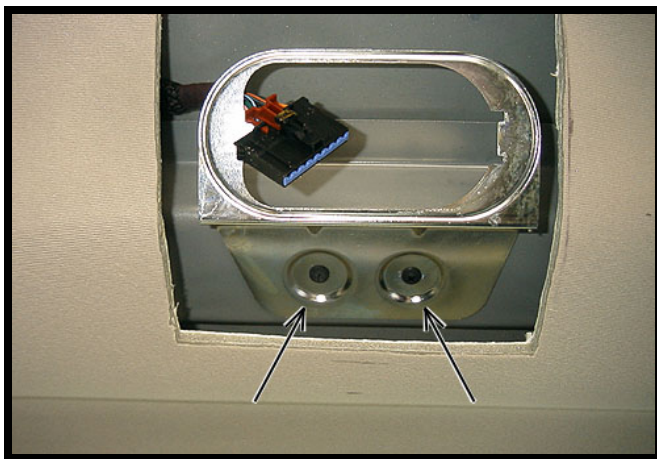

FIGURE 3
3. Remove and retain O.E. A/C switch bracket and screws. See Figure 3.